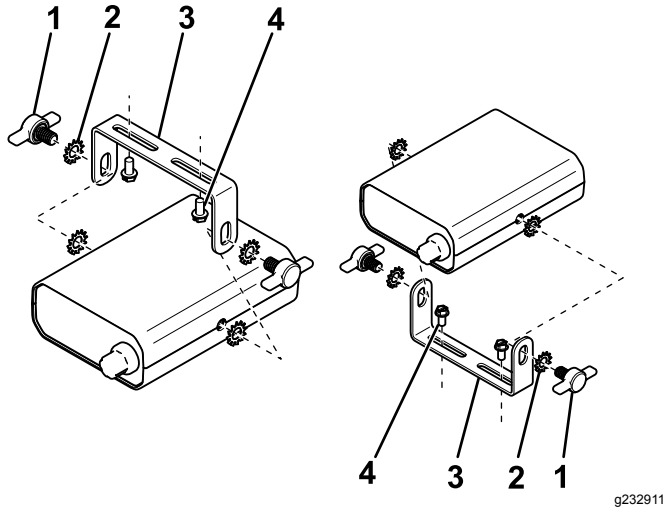

Figure 15
1. Attach the mounting bracket to the vehicle using 2 sheet-metal screws (Figure 15).
2. Attach the controller to the mounting bracket using 4 star washers and 2 thumb screws (Figure 15).